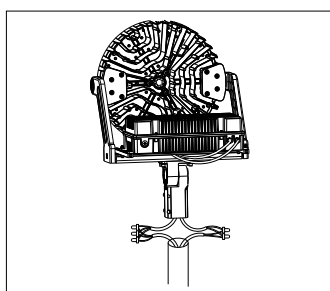

Figure 10
1. Loosen the four bolts on the SF bracket, connect the wires properly, and route them through the pole (Figure 10).